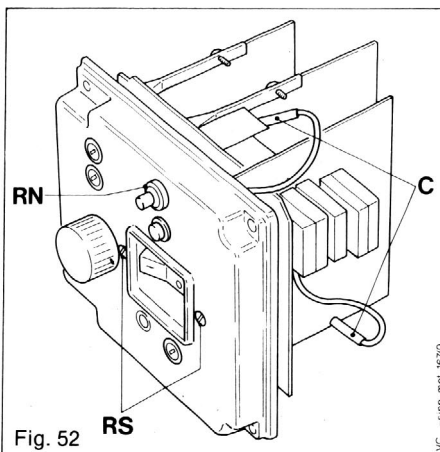

Fig. 52
14.6.4 Change of flame supervision circuit board (F.S.C.B.) (Fig. 52)
Unscrew the two retaining screws (RS) as well as the two retaining screws (RS, fig. 52).